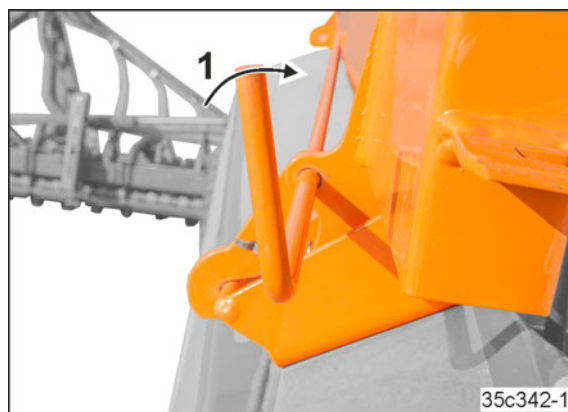

Fig. 226
1. Release the cover lock (Fig. 226/1)